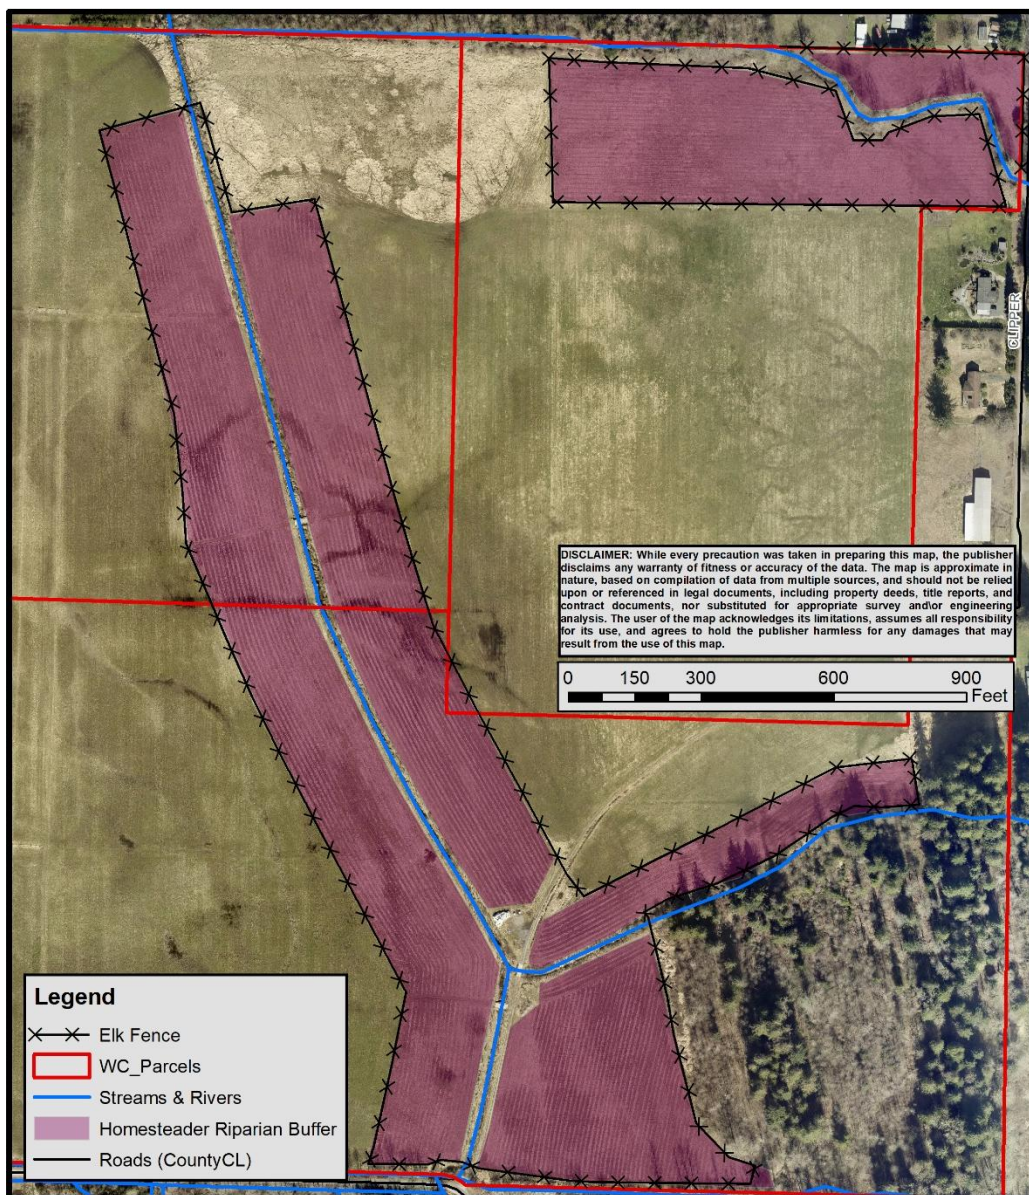

Figure 1: Site Map
- Location: Fence will be constructed around the perimeter of the riparian planting area (see Figure 1).